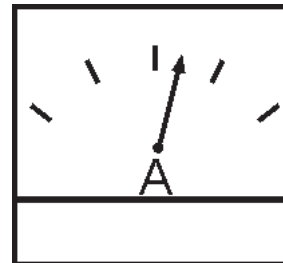

Figure 51. Ammeter (Load)
18. Observe the generator's ammeter (Figure 51) and verify it reads the anticipated amount of current with respect to the load. The ammeter will only display a current reading if a load is in use.